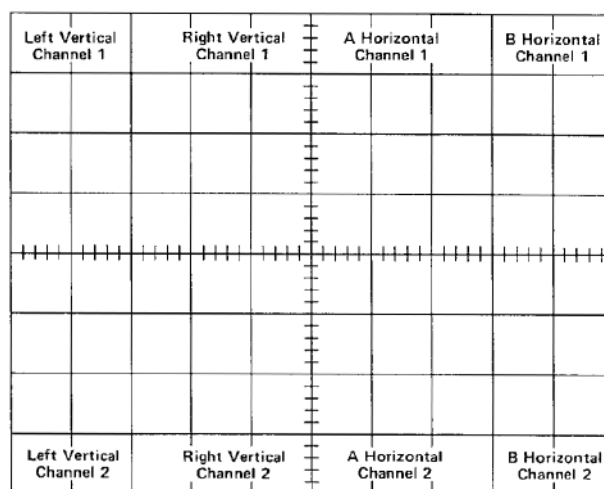
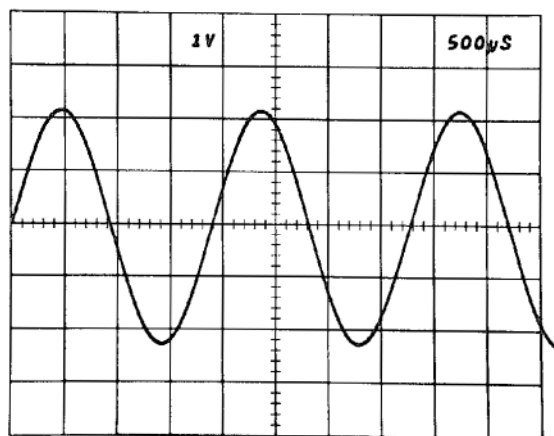

Fig. 2-32. Location of readout words on the CRT identifying the originating plug-in and channel (one complete frame shown, simulated readout).
Fig. 2-34. Typical readout display where only channel 1 of the Right Vertical and B Horizontal units is displayed.
Frame—A frame is a display of all words for a given operating mode and plug-in combination. Up to eight words can be displayed in one frame. Figure 2-32 shows the position of each word in a complete frame.
Up to eight words of readout information can be displayed on the CRT. The position of each word is fixed and is directly related to the plug-in unit from which it originated. Figure 2-32 shows the area of the graticule where the readout from each plug-in unit is displayed. Notice that Channel 1 of each plug-in unit is displayed within the top division of the CRT and Channel 2 is displayed directly below within the bottom division. Figure 2-34 shows a typical display where only Channel 1 of the Right Vertical and B Horizontal units is selected for display.
The Format Generator stage provides the output signals to the vertical and horizontal deflection systems of the instrument to produce the character display. The binary Channel Address Code from the Channel Counter stage is connected to this stage, so that the display from each channel is positioned to the area of the CRT associated with the plug-in and channel originating the word (see Fig. 2-32). The positioning current or decimal point location current generated by the Decimal Point Logic and Character Position Counter stage is added to the Horizontal (X) signal at the input to the Format Generator stage to provide horizontal positioning of the characters within each word. The X- and Y-Readout signals are connected to the Horizontal Amplifier and Vertical Amplifier through the X- and Y-Buffer stages.